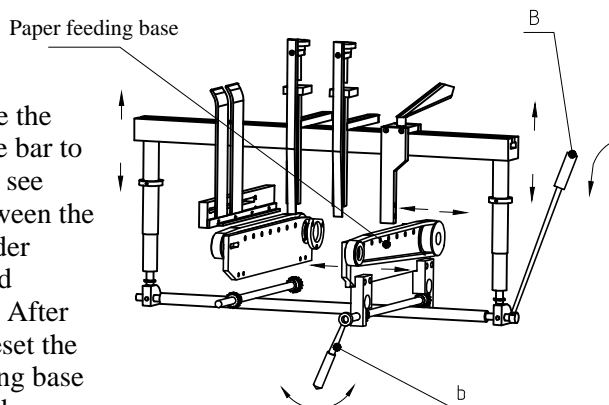

Fig 1-1
- ① Press down the jiggle bar (B) to raise the parts of paper feeding, turn the jiggle bar to right or left, moving conveying base see Fig.1-1, (normally, the intervals between the conveying bases should be even, under special situation, it should be decided according to the shape of the paper). After adjustment of the conveying base, reset the jiggle bar (b) and fasten the conveying base (M8 clamping screw).Paper feeding base Fig. 1-1